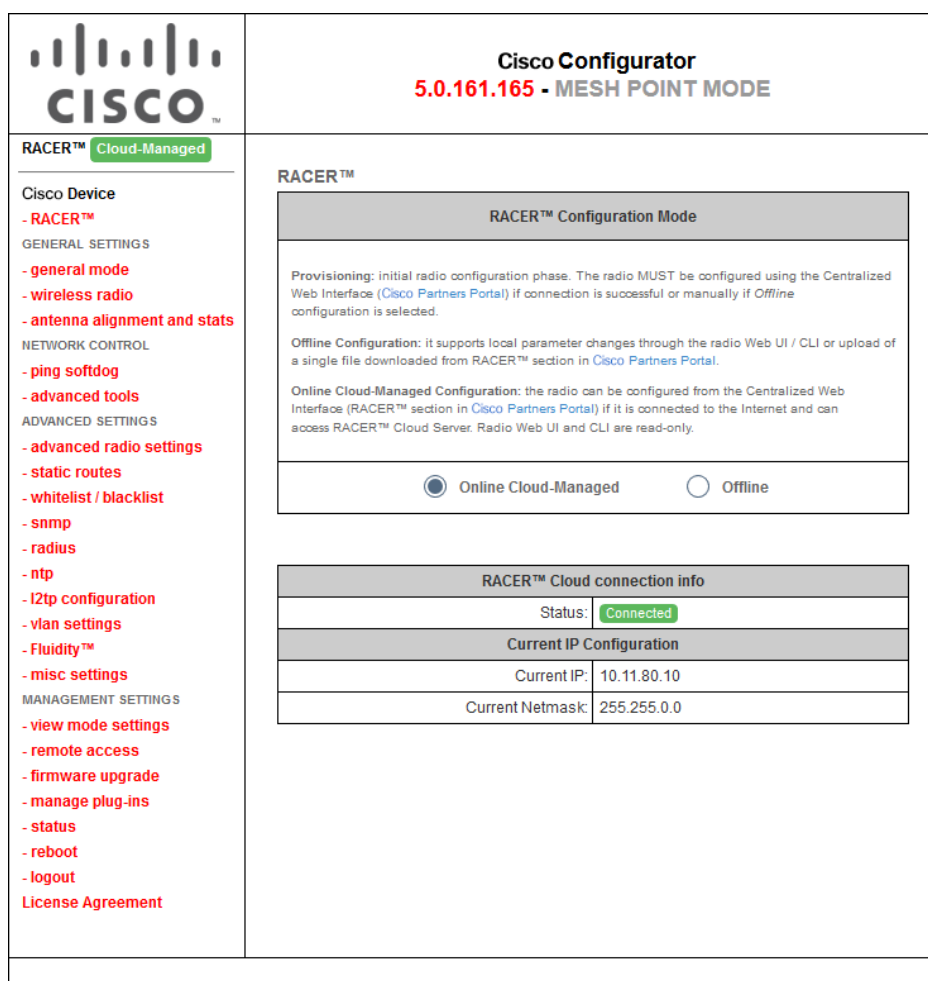

Figure 22. Cisco Configurator (landing page)
- The Configurator landing page will be shown (Figure 22 (page 42)).